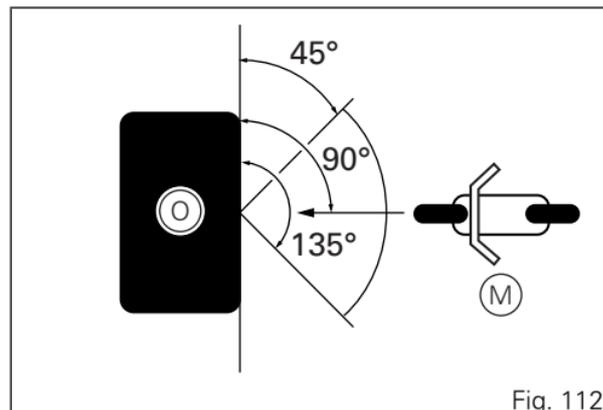

Fig. 112
Accident conditions, motorcycle impact (M) against an obstacle (O), for which D-Air® has obtained the certification by the TÜV SUD Notified Body, are shown in the figure (Fig. 112).